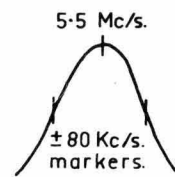

FIG. 2.
- Peak primary core for the curve Fig. 2, using the marker generator to set the limits shown.